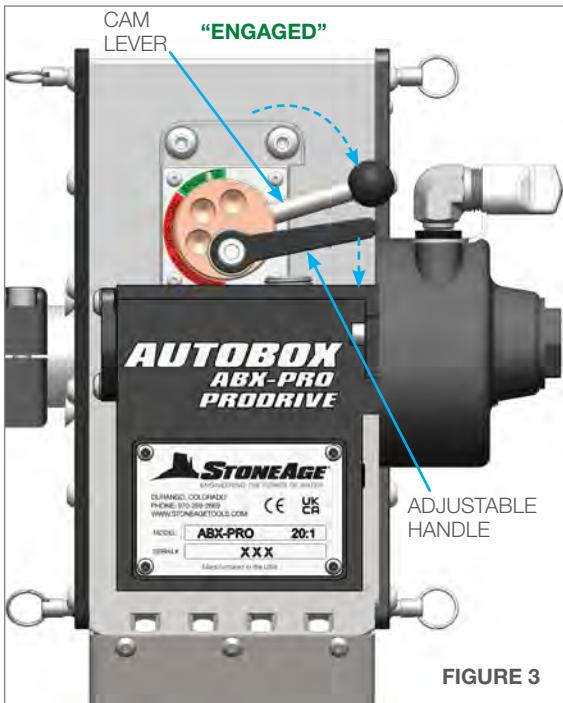

FIGURE 3
3. Rotate the Cam Lever clockwise to the **“Engaged”** position to tighten the Idler Roller down onto the hose. There should be a slow slip on the hose. If the slip is too tight or loose, move the Eccentric Lever off until a slow slip is obtained. Once the slip level is achieved, push down on the Adjustable Handle to tighten the bushing assembly. **(Figure 3)**